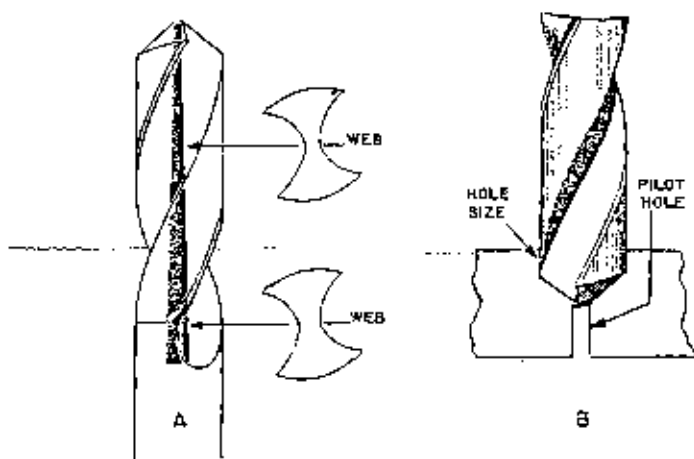

Figure 2-2-25.—Drilling a large hole.
Where exactness is required in locating a hole for drilling, make a layout and drill a pilot hole to pilot or guide the final size drill. In general, as drill sizes increase and the thickness of the web at the point of the drill increases, a pilot hole becomes more of a necessity. The web of a drill, as shown at (A) in figure 2-2-25, is the solid center of the point extending the length of the flutes. As the web does not actually drill and remove chips, a pilot hole is necessary for accurate drilling, both to remove the metal in this area, and to provide a true path for the larger drill to follow. (See fig. 2-2-25B.) The accuracy with which the pilot hole is located and drilled determines, in part, the accuracy of the location of the final or "size" hole.